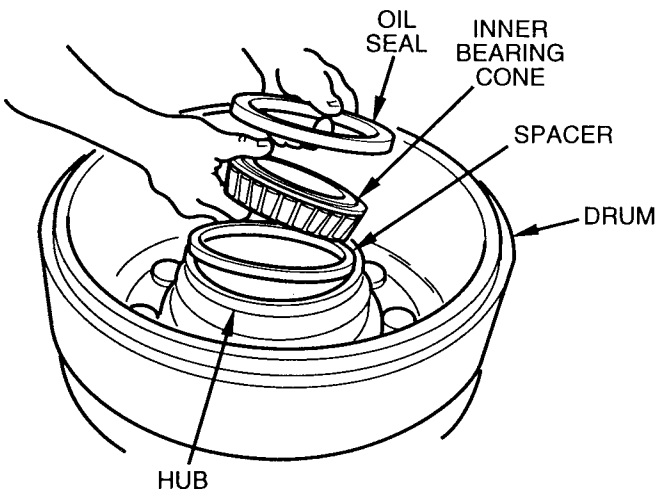

Figure 8 Installing Inner Bearing
3. Place the inner wheel bearing cone into the inner bearing cup. Install bearing spacer on top of bearing cone. (See Figure 8).